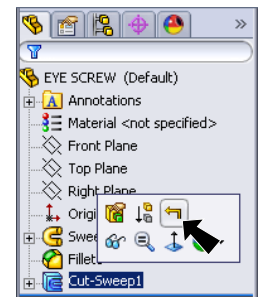

Fig. 31
Step 2. Roll the rollback bar to above the **Cut-Sweep**. To rollback Cut-Sweep, click Cut-Sweep in the Feature Manager and click **Rollback**  from the Content toolbar, **Fig. 31**.